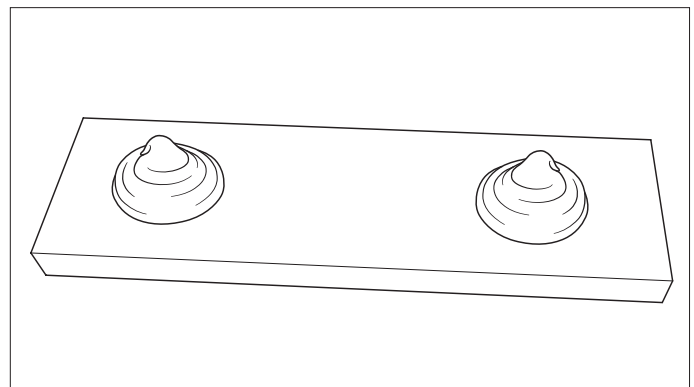

FIGURE 8
following sections. Apply no less than 2 dabs/beads of adhesive per unit at a maximum spacing of 6 in. Apply an additional dab of adhesive to the head of corner units. Primer/adhesive should not be applied within 1 in. of the edges of units to avoid staining (see Figure 8).
- Apply quarter-sized (1 in. diameter) dabs of Glen-Gery thin brick adhesive approximately 2 in. from each end of the brick and not more than 6 in. apart for brick greater than 8 in. in length (see Figure 8). See TABLE 4 (page 13) for recommended minimum quantity of adhesive. Apply an additional dab of adhesive to the head of corner units.